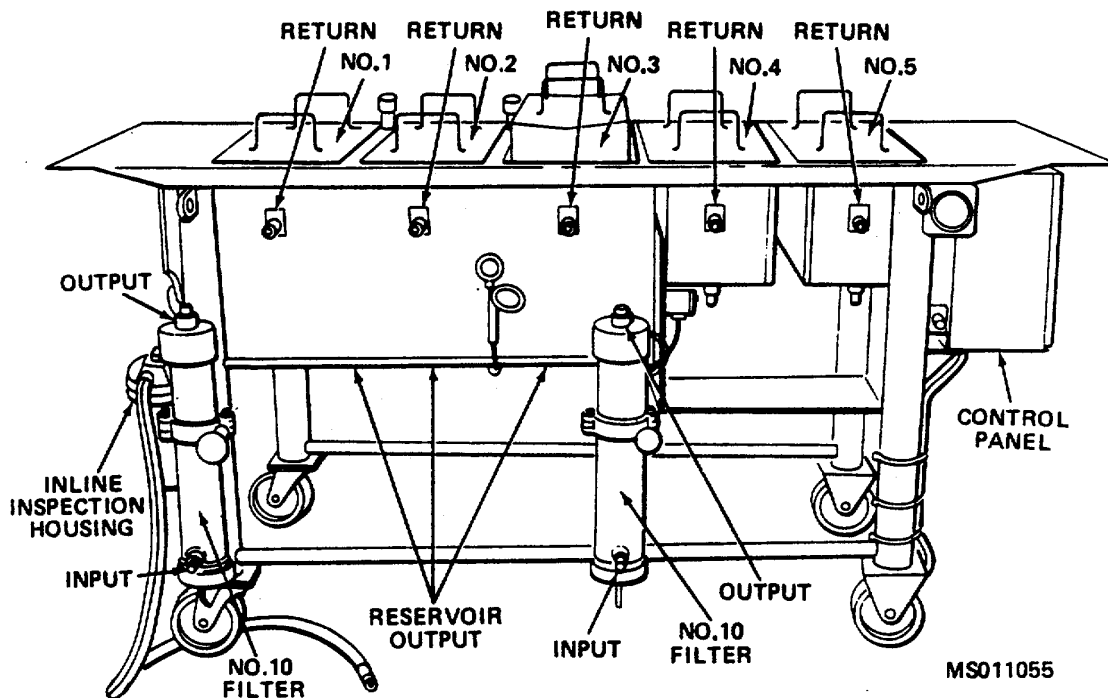

Figure 1. Cleaning station.
The Cleaning Station (fig. 1) contains five reservoirs (6.5 gals each), four heater elements (1.5 KW each for heating reservoirs Nos. 1, 2 and 3), a thermometer, and a 1.75 V 650 MA DC power supply. Additional items are: A pump (maximum pressure 100 PSI), a filter housing with elements, and a pressure indicator. The reservoirs are filled as follows:
- l. Reconnect the return line of the coolant fluid tank to the upper connection of reservoir No. 1 (Versene-Acid) solution and the lower connection of reservoir No. 1 to the pump (figure 1). Start the auxiliary pump and let it run for 60 minutes.
- m. Stop the pump and press the air relief valve button to empty the tank (fig. 1).
- o. Remove all plugs and connections and install the pressure relief valve (fig. 1). Reinstall the reservoir tank.